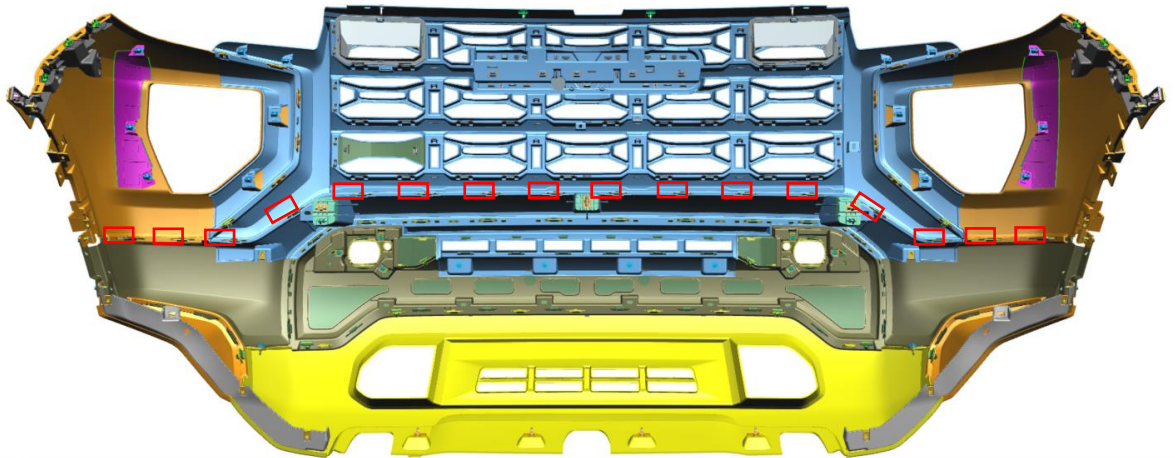

Figure 9 - Backside of Front Fascia
- b. Disengage 16 clips along upper and lower fascia – Fig. 9